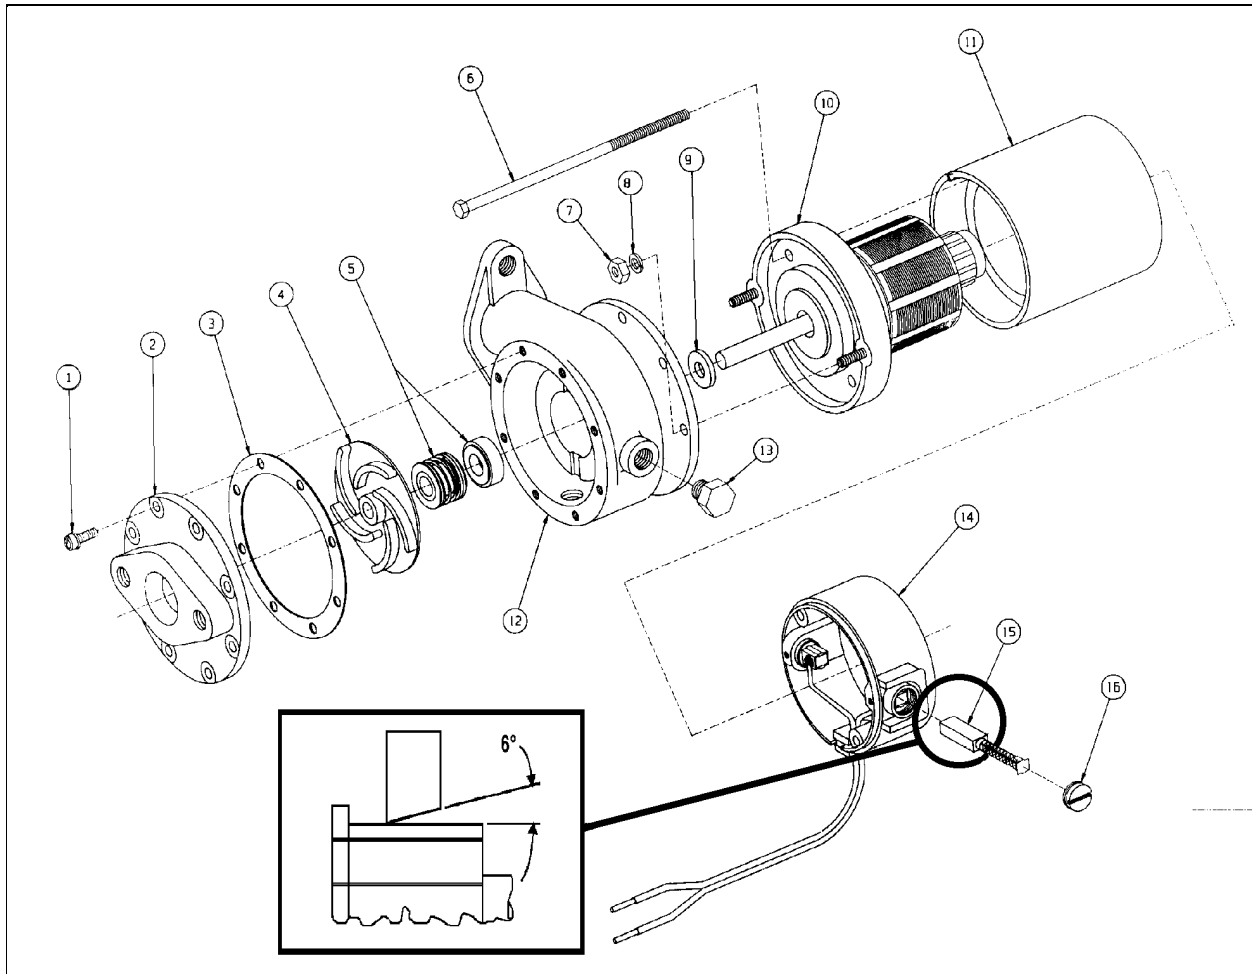

FIGURE 37: WATER RECIRCULATING PUMP
### 12.3.3 Disassembly (Refer to Fig. 37, Water Recirculating Pump and Motor)
1. Remove two brush caps (16, Fig. 37) and two brush assemblies (15, Fig. 37). When removing brushes, note the position of the brush in the tube. Brush life is significantly decreased if brushes are not replaced properly.
2. Remove the pump cover (2, Fig. 37) by removing eight head screws. Remove cover carefully to prevent damage to gasket (3, Fig. 37).
3. Remove gasket (3, Fig. 37).
- a. Install puller tool assembly (MP Co. Part No. 24702 or equivalent) to pump body (12) using four screws removed from the pump cover (2).
7. Remove impeller (4) and components of the pump seal assembly (5).
- d. New brushes have a six (6) degree angle. The brush should always be inserted so that the angle is open away from the pump end of the assembly (inset, Fig. 37).
### 12.3.5 Bearings (Fig. 37)
### 12.3.7 Miscellaneous (Fig. 37)
### 12.3.8 Assembly (Fig. 37)